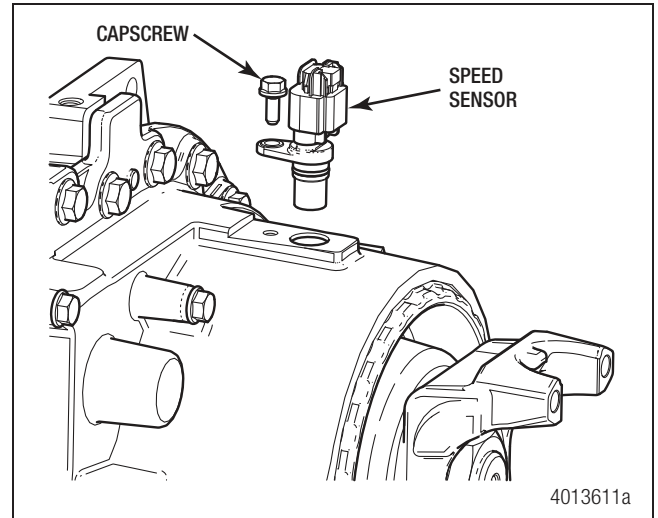

Figure 4.35
2. Remove the flanged capscrew from the speed sensor bracket. Figure 4.35.